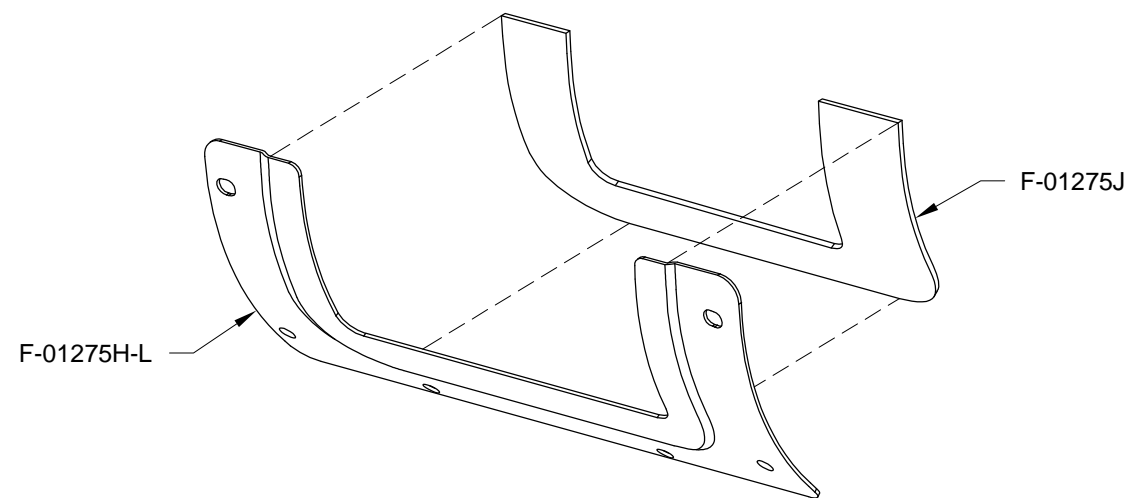

FIGURE 1: BOTTOM LEFT MAIN GEAR SEAL ASSEMBLY
Step 3: Use fuel tank sealant to bond the F-01275J to the F-01275H-L to produce the Bottom Left Main Gear Seal Assembly as shown in Figure 1. Scuff mating surfaces prior to bonding and clamp the parts while curing.